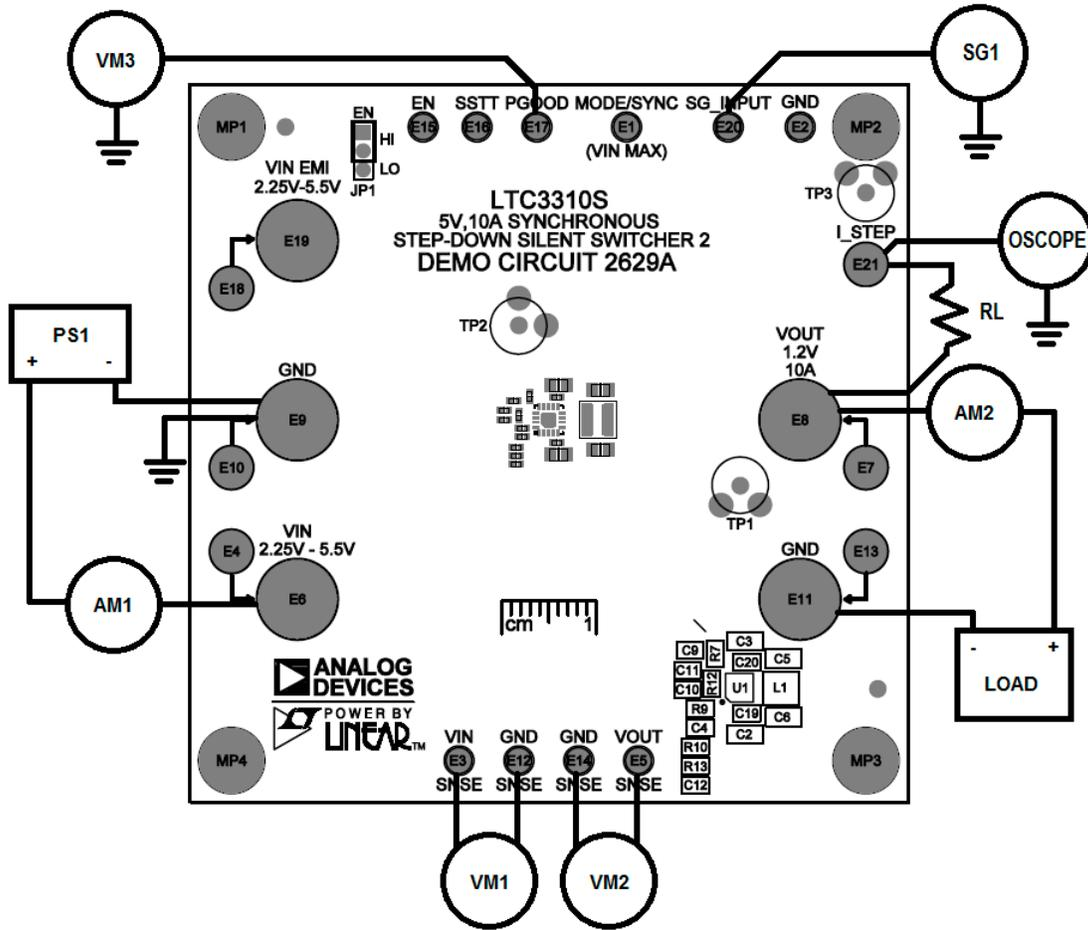
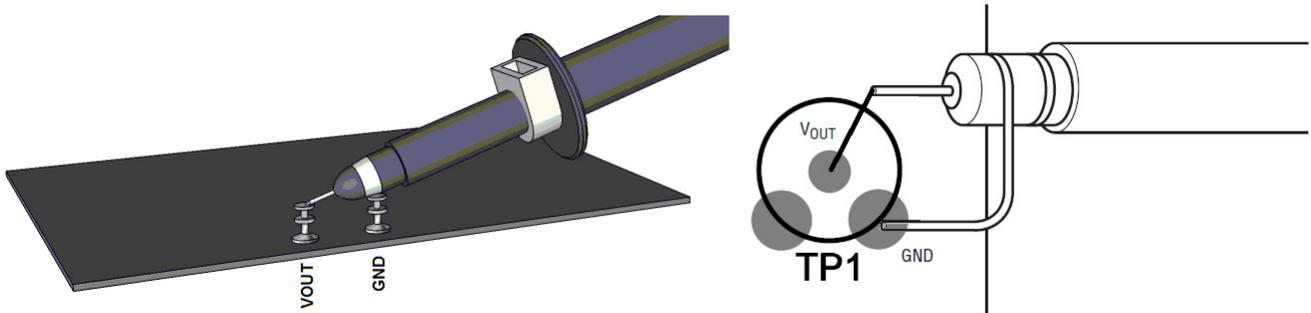

Figure 1. Test setup for the DC2629A Demo Board
Figure 2. Technique for Measuring Output Ripple and Step Response
Demonstration circuit 2629A is easy to set up and evaluate the performance of the LTC3310S. Refer to Figure 1 for proper measurement equipment setup and follow the procedure below:
NOTE: For accurate V_{IN} , V_{OUT} and efficiency measurements, measure V_{IN} at the V_{IN} SNSE and GND SNSE turrets and V_{OUT} at the V_{OUT} SNSE and GND SNSE turrets as illustrated as VM1 and VM2 in Figure 1. When measuring the input or output voltage ripple, care must be taken to avoid a long ground lead on the oscilloscope probe. Measure the output voltage ripple by touching the probe tip directly across the output turrets or to TP1 as shown in Figure 2.
3. Slowly increase PS1 to 1.0V. If AM1 reads less than 20mA, increase PS1 to 3.3V. Verify that VM1 reads 3.3V and VM2 reads 1.2V. Record VM1, VM2, VM3 AM1 and AM2. Connect an oscilloscope voltage probe as shown in Figure 2. Set Channel to AC coupled, voltage scale to 20mV and time base to 10 μ s. Record V_{OUT} ripple voltage. Verify that PGOOD voltage is above 3V. Calculate Die temperature using formula below:
7. To test the transient response with a base load, add the desired resistor to produce a minimum load between V_{OUT} and I_STEP turrets (R_L shown on Figure 1). Note that the total load resistance will be R_L plus R14 (100m Ω). Adjust a signal generator with a 10ms period, 10% duty cycle and an amplitude from 1V to 2V to start.